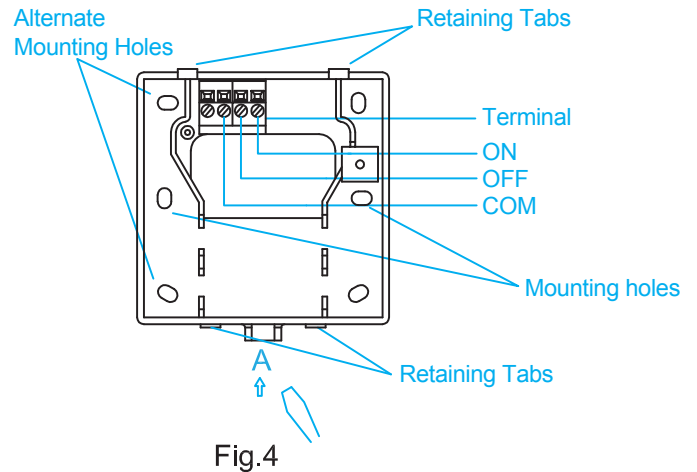

Fig.4
- Remove the mounting plate from the unit by prying off the mounting plate in position A (as showing in Fig. 4) with a screwdriver, and pivoting the bottom of the unit outwards. The CHPRSTATD body can then be lifted off.